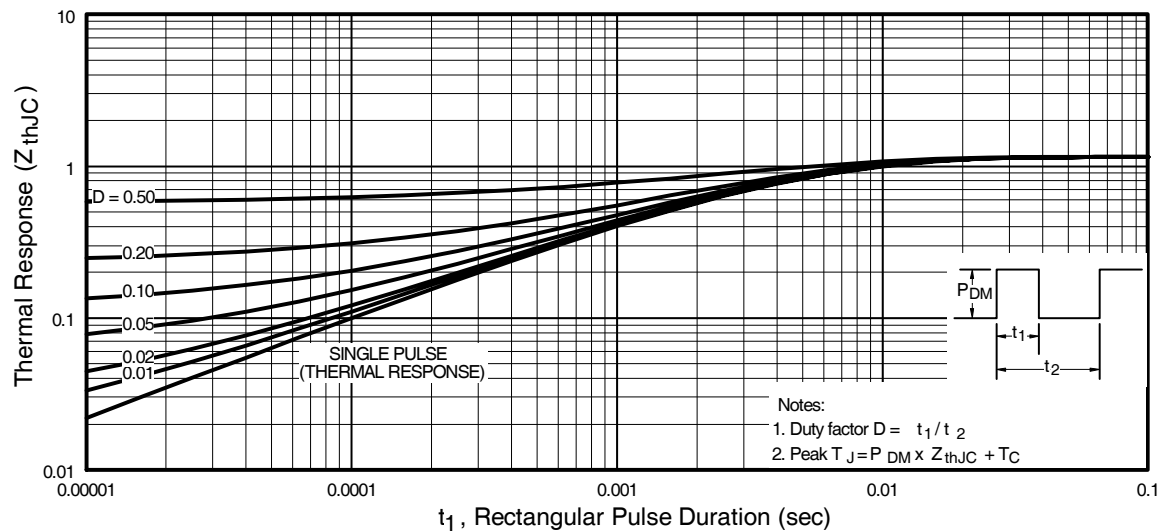

Fig 11. Maximum Effective Transient Thermal Impedance, Junction-to-Case
① Repetitive rating; pulse width limited by max. junction temperature. (See fig. 11)
② Starting $T_J = 25^\circ\text{C}$, $L = 0.37\text{mH}$